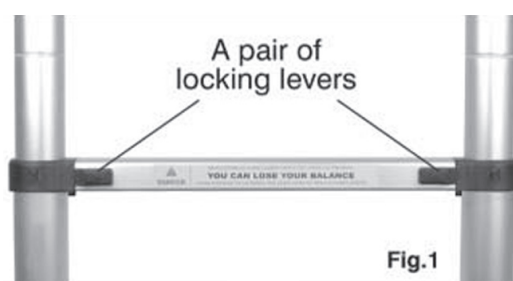

Fig.1
1. Read the instruction manual attentively prior to use Fig. 1